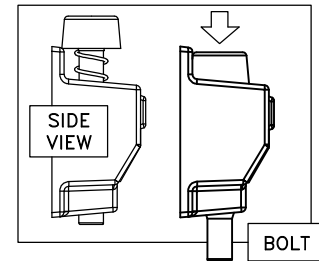
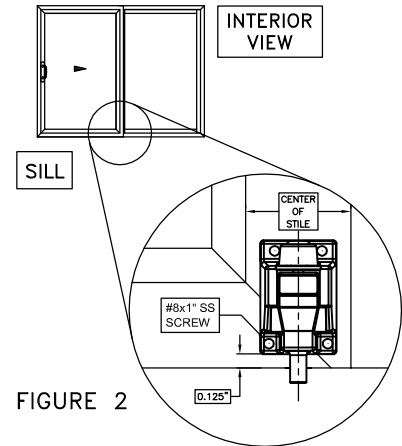
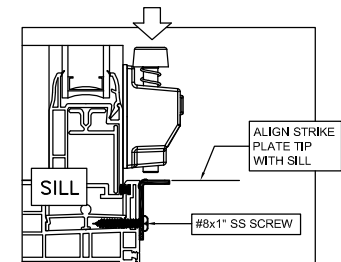
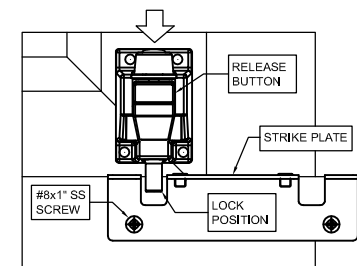

FIGURE 1
FIGURE 2
FIGURE 3
FIGURE 4
First, close and lock patio door's moving panel. Make sure it is operational and locking properly with the door keeper. Check secondary door limiter if it is working by pushing the foot locker head and engaging foot bolt (Figure 1). Press foot lock release button to release foot bolt. Center the foot lock into the moving panel stile and 1/8" away from the door sill leg (Figure 2). Install footlock and fasten with (4) pieces of #8x1" stainless steel screws.
Press down foot lock bolt (Figure 1). Install and align strike plate on patio door sill leg (Figure 3) and center foot lock bolt on strike plate's lock position groove (Figure 4). Install strike plate and fasten with (2) pieces of #8x1" stainless steel screws (Figure 4).
Push foot lock release button to release foot lock bolt (Figure 4). Unlock patio door and slide sideways to move foot lock into venting lock position (Figure 5). Press foot lock bolt downward to lock.